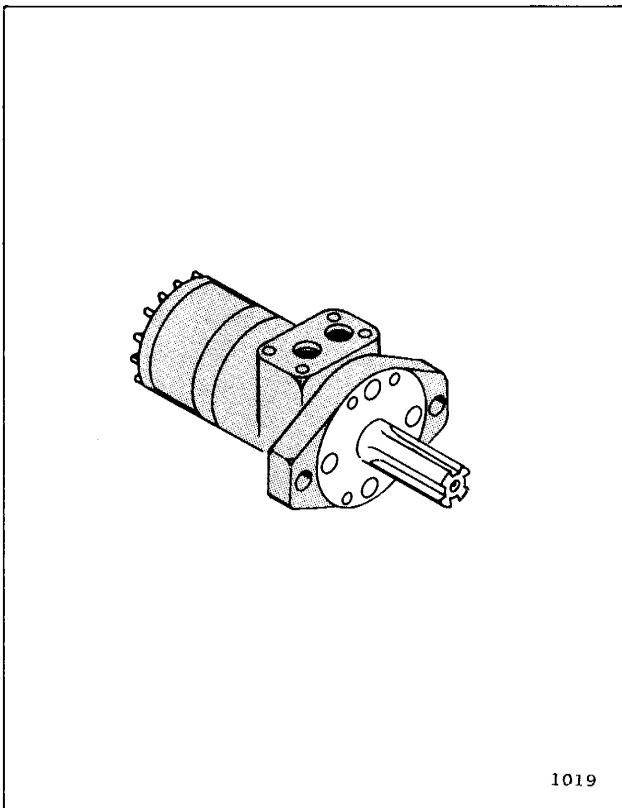

Figure 2-14. Swing Motor
2. **Swing Motor.** The hydraulic motor is a gear type and provides a low-speed high-torque output to the swing gearbox. (See Figure 2-14.)